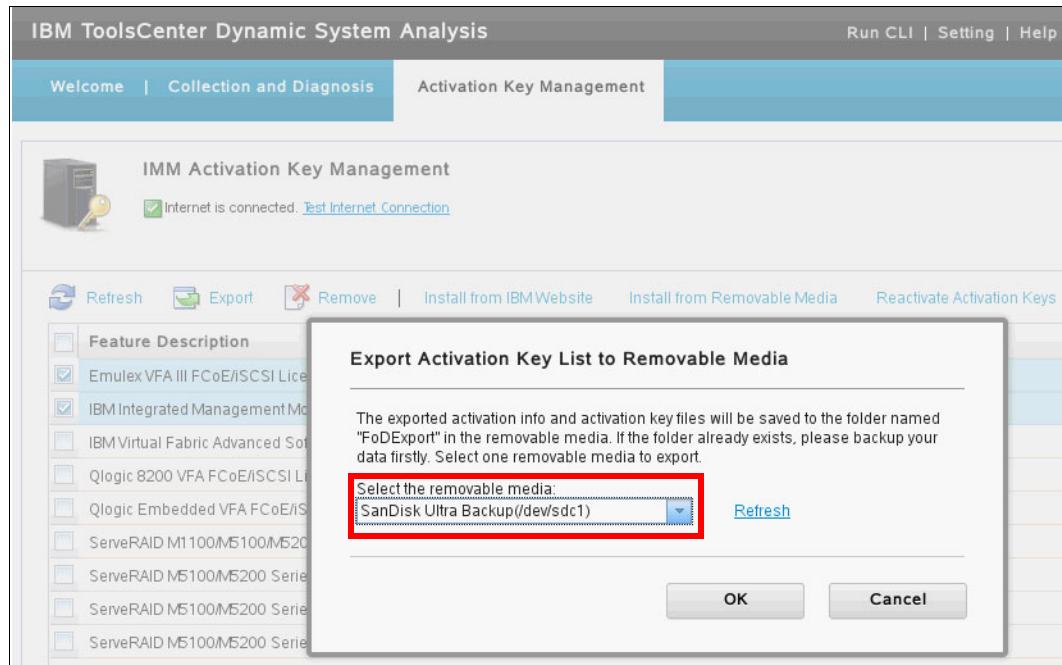

Figure 3-25 Export activation key screen.
3. Select the removable media and click **OK**, as shown in Figure 3-25.